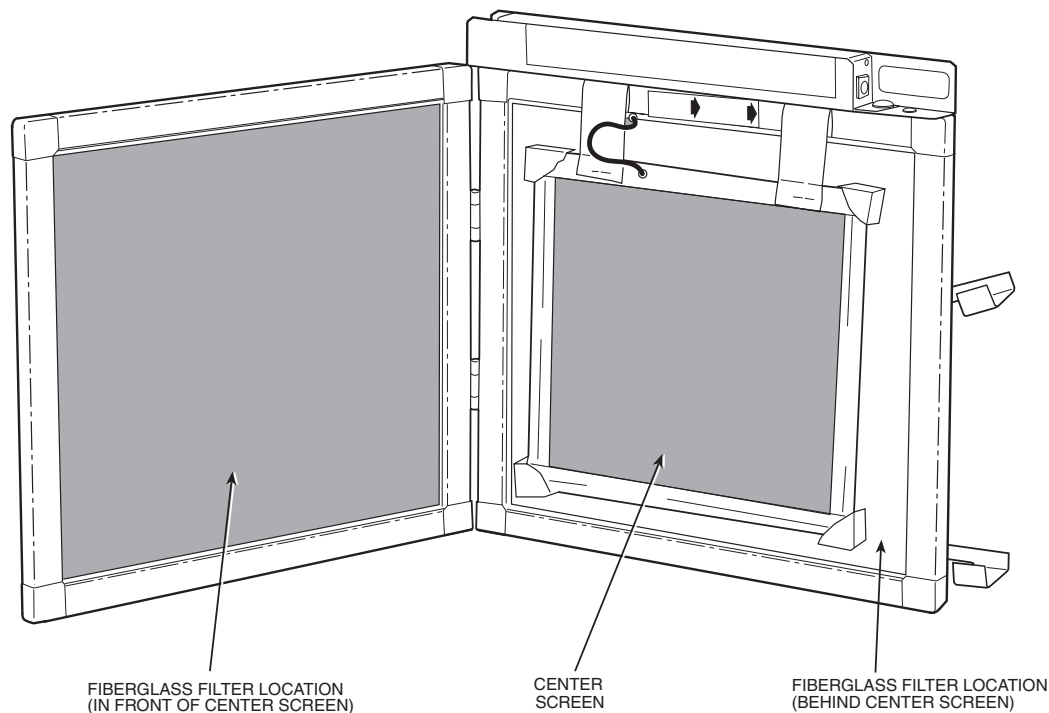

Fig. 5 — Filter Replacement
4. Place the two new pads (purchased separately) on either side of the center screen. See Fig. 5. Be sure the pads fit squarely into the outside retainer screens.